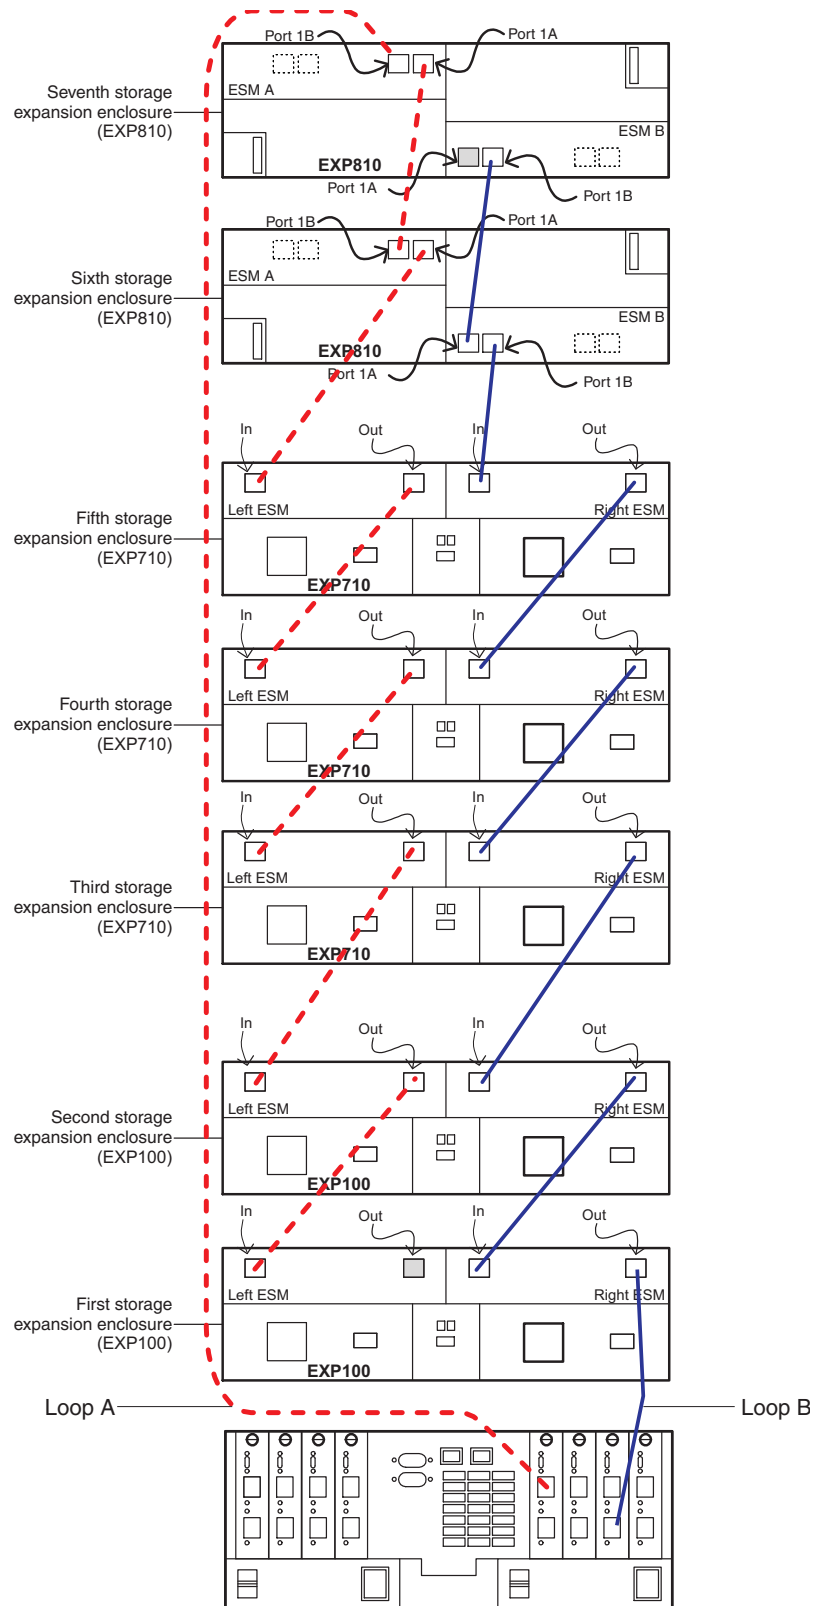
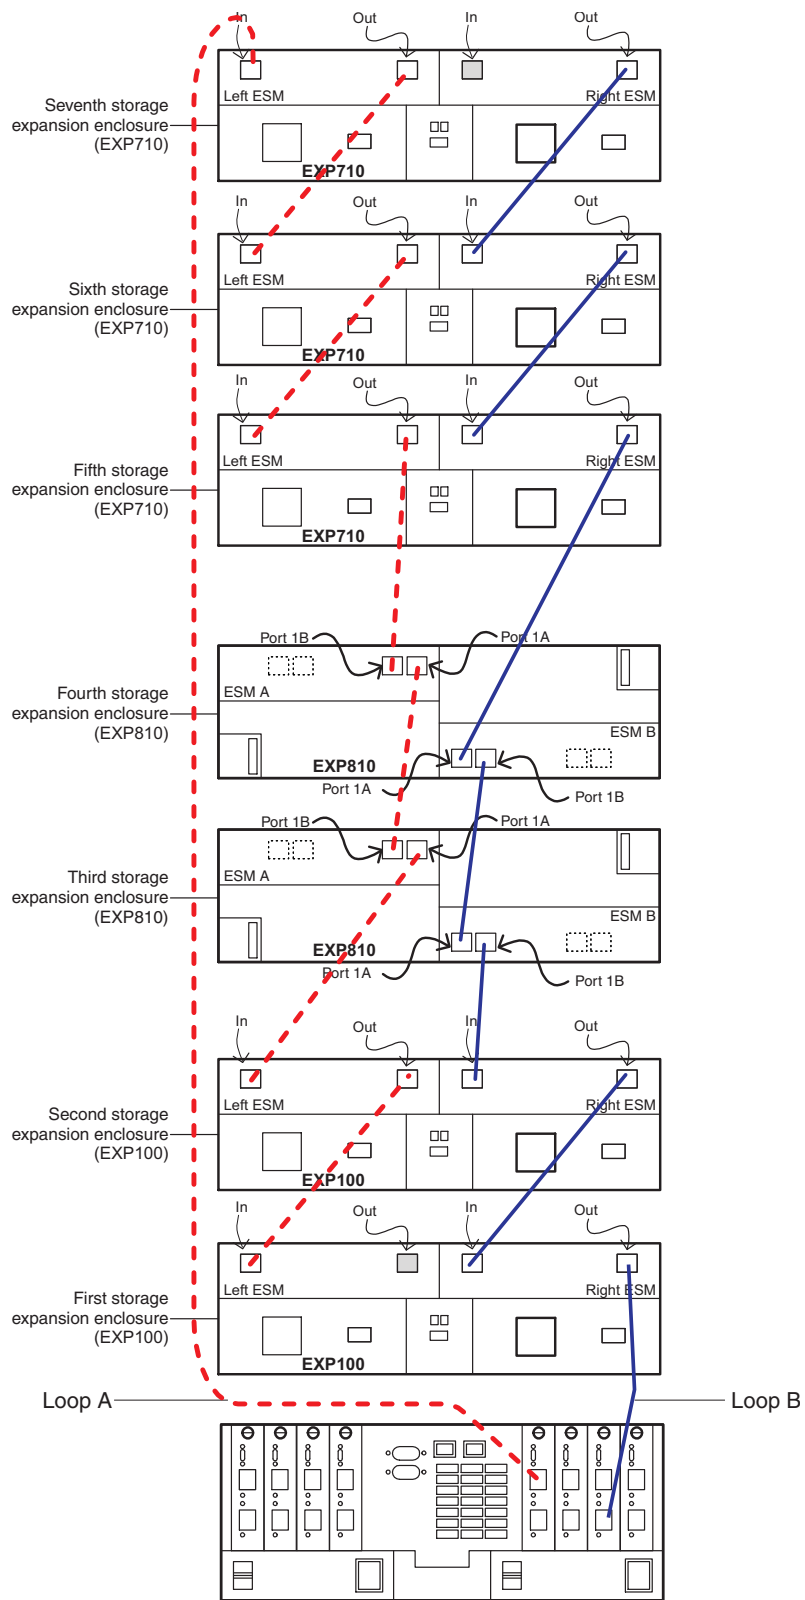
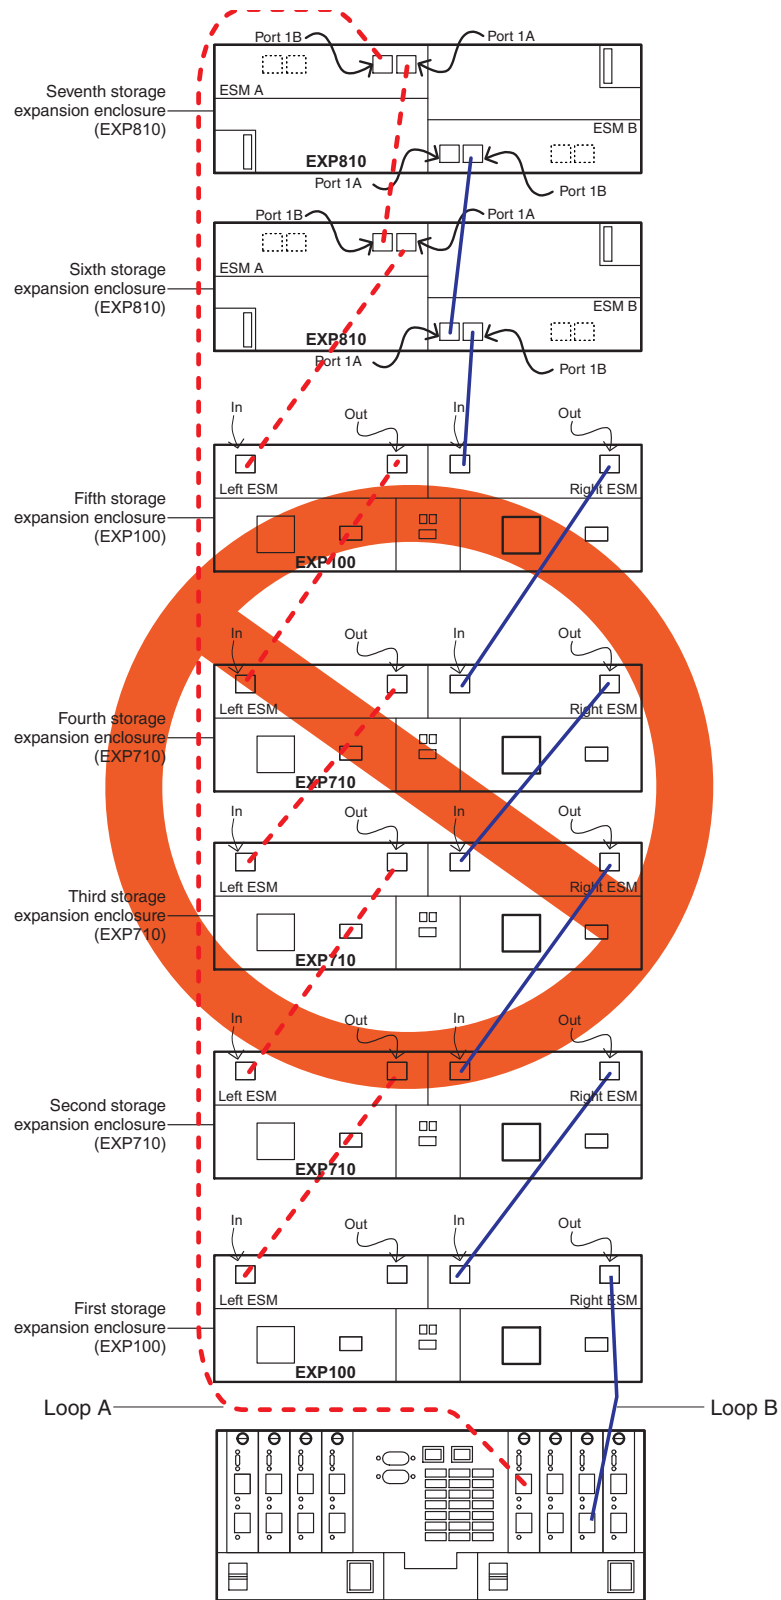
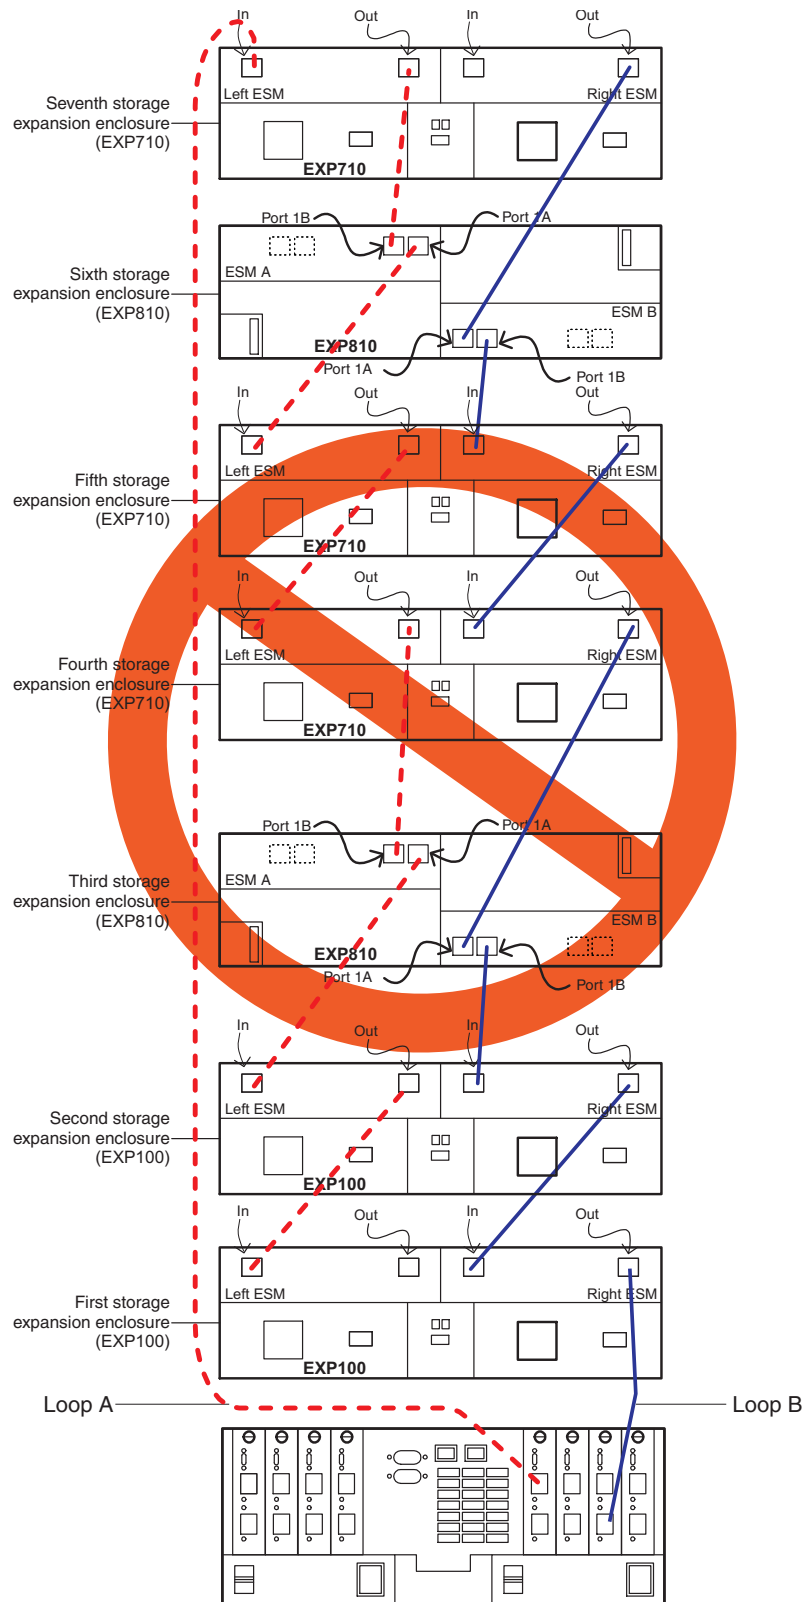

Figure 12. Supported cabling for an intermix of EXP100, EXP710, and EXP810 storage enclosures (example 1)
Figure 13. Supported cabling for an intermix of EXP100, EXP710, and EXP810 storage enclosures (example 2)
Figure 14. Unsupported cabling for an intermix of EXP100, EXP710, and EXP810 storage enclosures (example 1)
Figure 15. Unsupported cabling for an intermix of EXP100, EXP710, and EXP810 storage enclosures (example 2)
**Note:** You must cable all of the EXP810 storage enclosures together, followed by all of the EXP710 storage enclosures. Figure 12 on page 49 and Figure 13 on page 50 are examples of correctly cabling the intermix of EXP100 with EXP810 and EXP710 storage enclosures. Figure 14 on page 51 and Figure 15 on page 52 are examples of incorrectly cabling the intermix of these enclosures. One shows the EXP100 storage enclosures cabled between the EXP810 and EXP710 storage enclosures, and the other shows the EXP810 and EXP710 storage enclosures intermingled.